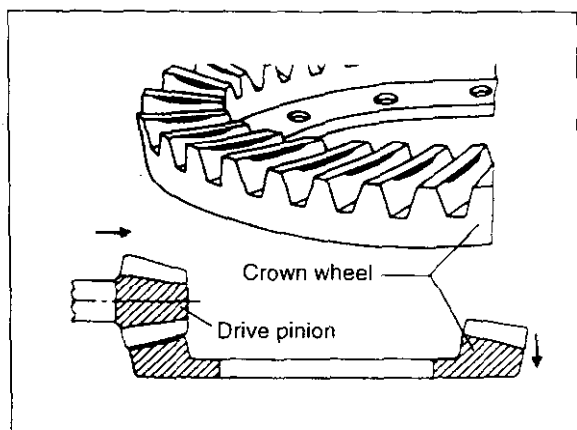

Fig. 2-371
- d. Adjusting contact condition at face (Fig. 2-371). Reduce the shim thickness at the bearing cage to bring the drive pinion closer to the crown wheel.